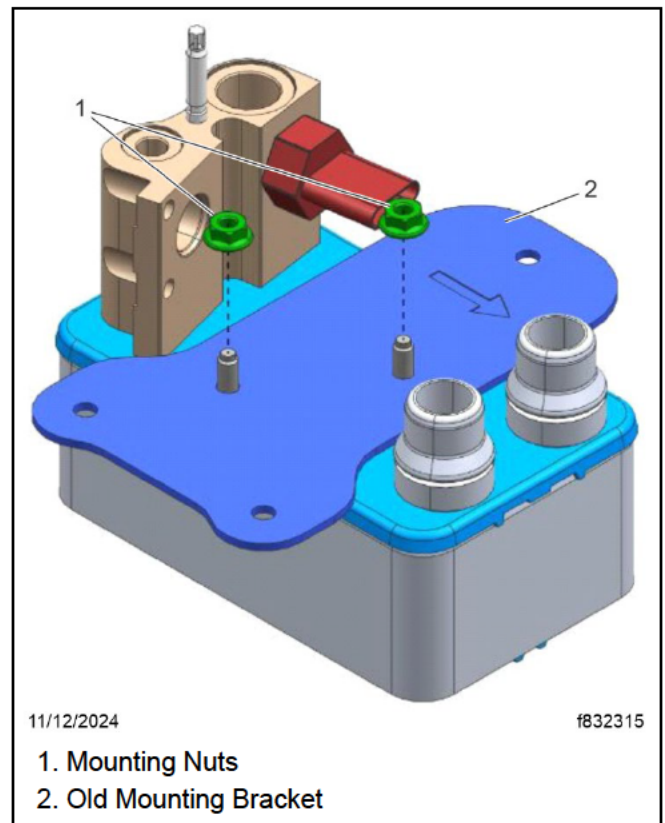

Fig. 10, Old Bracket Mounting on the Chiller
37. Remove the two mounting nuts and remove the mounting bracket from the top of the **old** chiller. Set the bracket aside. See **Fig. 10**.
38. Install the **old** mounting bracket, shown in **Fig. 10**, on top of the **new** chiller. Use the original mounting nuts to secure the bracket. Tighten the fasteners 71 lbf·in (800 N·cm).